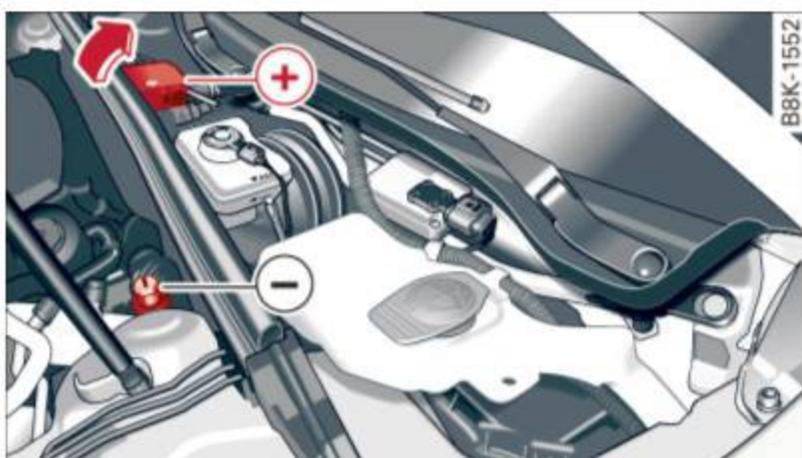

Fig. 213 Engine compartment: Connectors for jumper cables and charger
- ▶ Open the cover on the positive pole ⇒ fig. 213.